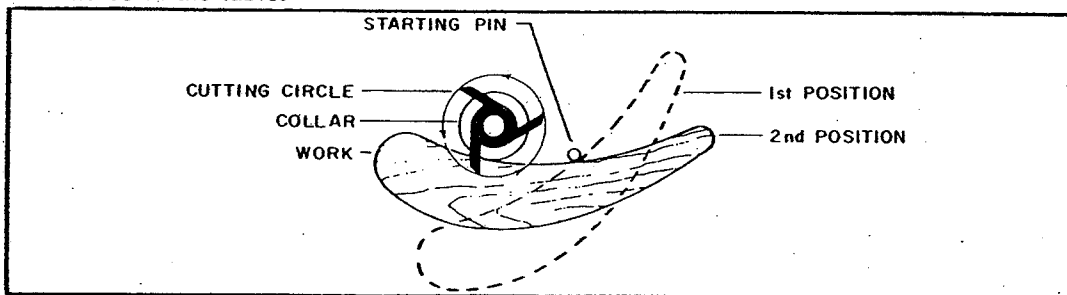

Fig. 34
2. The work should be placed in the first position using the guide pin as a support, as shown in Fig. 34. Then swing the work into the cutter as shown in the second position. The work will now be supported by the collar and starting pin as shown in Fig. 34.